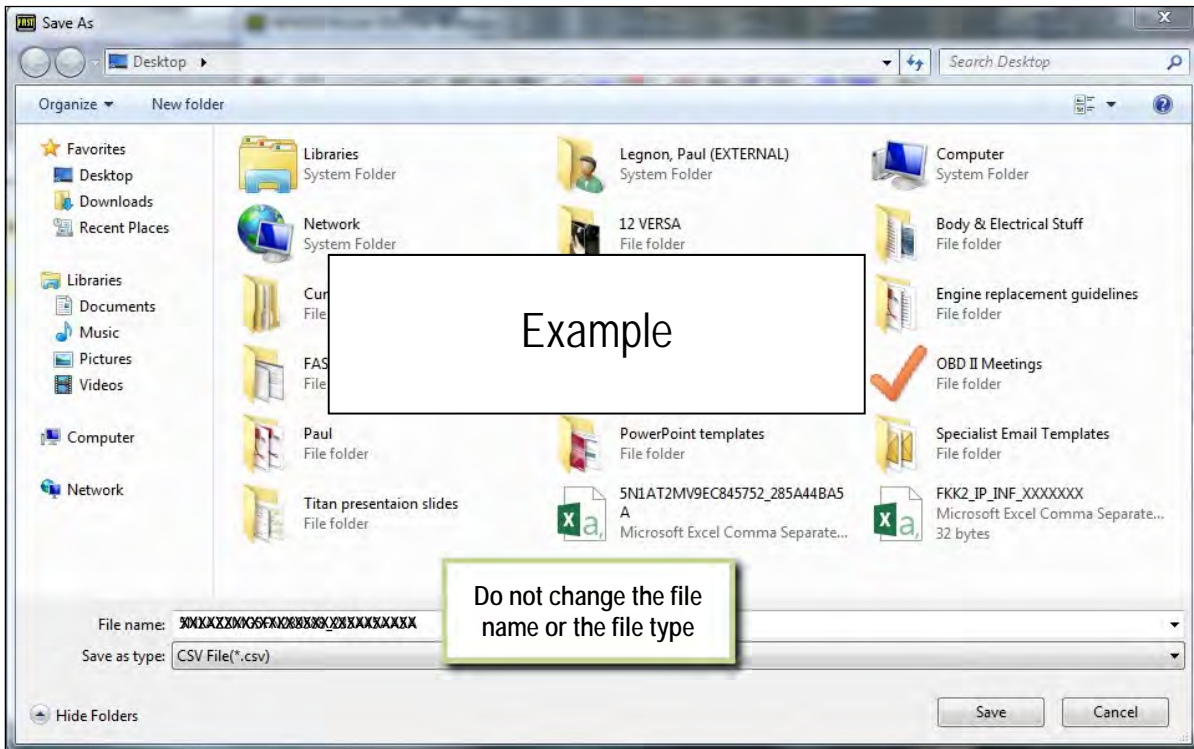

Figure 7A
- After selecting CONSULT in step 9, a screen showing your computer desktop with the CSV file should display (see Figure 7A.) This is the air bag diagnosis sensor unit part number file to be used for programming.